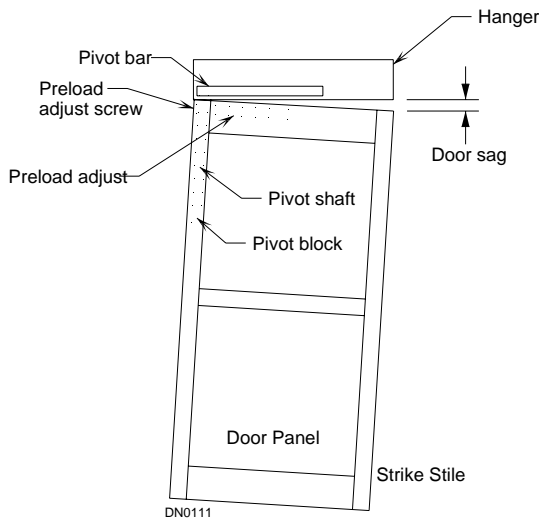

Figure 19
1. Looking at the bolt head, position the rollers as shown in Figure 19 with the rollers on the left in toward each other and the rollers on the right out away from each other.
1. Panic door open to check door sag (see Figure 19).